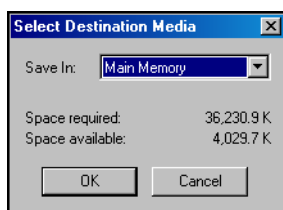

Figure 1-10. Select Destination Media
12. If the controller main memory does not have space available to copy the installation file, a prompt will display to select other destination media (Figure 1-10).